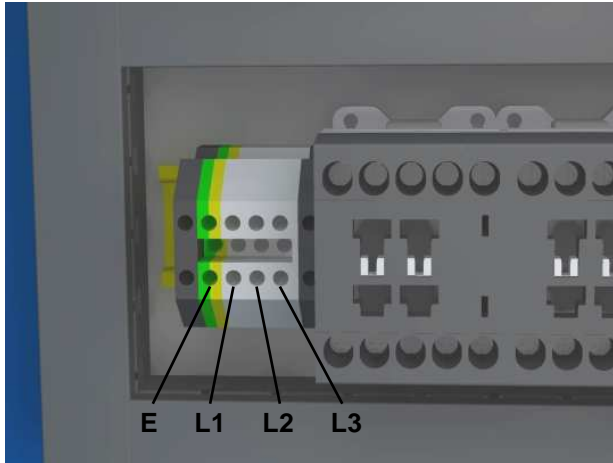

Fig 3.2 Starter Connections
3.5 Electrical Installation (Fig 3.2)